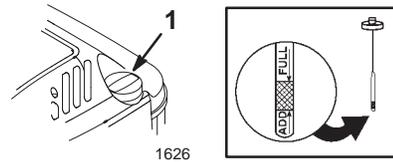

Figure 8
Before each use, ensure that the oil level is between the **Add** and the **Full** marks on the dipstick (Fig. 8).
2. Clean around the dipstick (Fig. 8).
6. Read the oil level on the dipstick (Fig. 8).